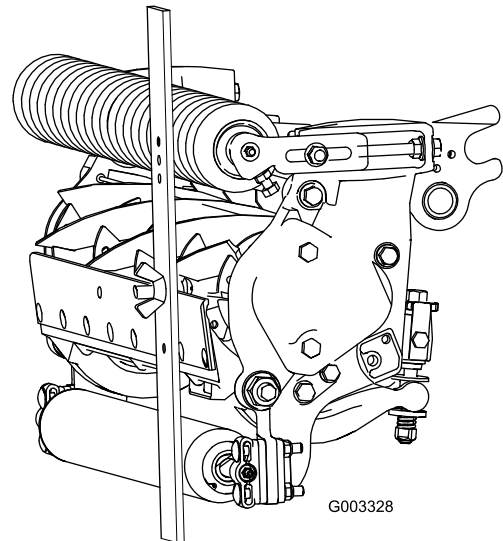

Figure 20
3. Hook the screw head on the cutting edge of the bedknife and rest the rear end of the bar on the rear roller (Figure 20).
4. Rotate the adjusting screw until the front roller contacts the gauge bar (Figure 20). Adjust both ends of roller until the entire roller is parallel to the bedknife.